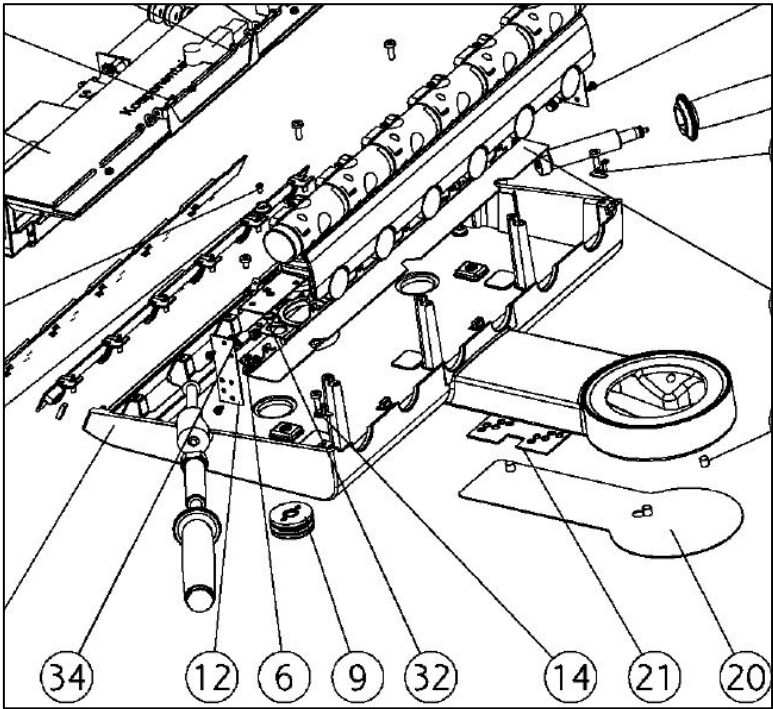

Figure 11
C14	Check the end-stop bracket is located on the last water-carrying instrument – see (12) in Figure 11. If not, move the end-stop bracket to the last water carrying instrument to prevent stagnant water.